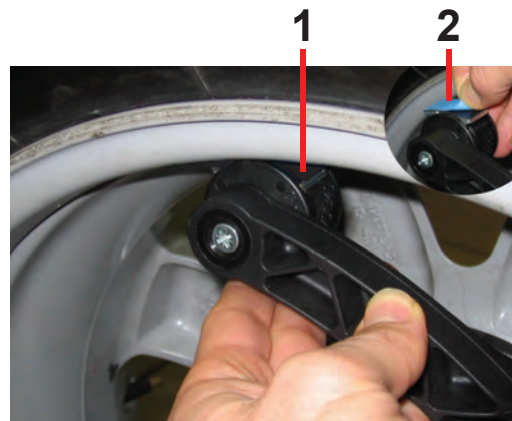

Figure 28b
**NOTE:** Clean the area where the weight will be placed before attaching the adhesive weights. In compliance with the imbalance detected, approach the suitable adhesive weight at the SAPE head.(1, Figure 28b). Remove the protective tape (2, Figure 28b) from the stick-on weight and apply it to the correct point on the rim.